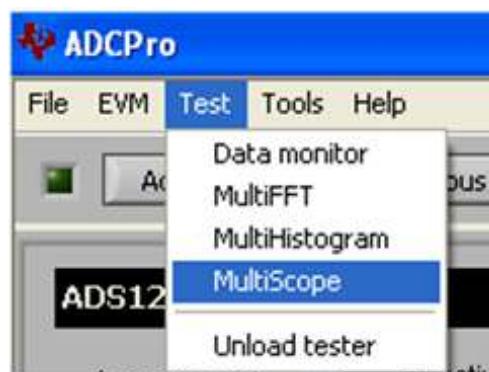

Figure 7. Select *Test=>MultiScope*
- In ADCPro, select the *MultiScope* plug-in in the *Test* drop-down menu as shown in Figure 7.